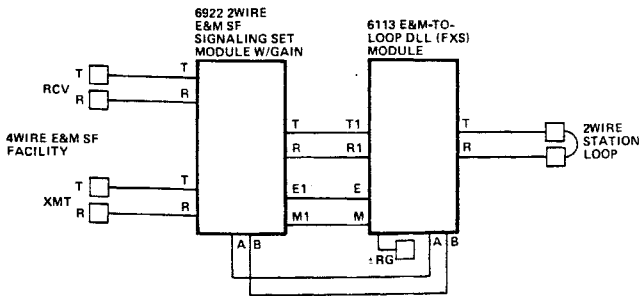

figure 4. 6113 in 4wire E&M SF-to-loop application
2.10 Other applications for the 6113, such as interfacing an E&M SF transmission facility, are possible with the addition of one or more modules. Figure 4 shows one possible 4wire E&M SF facility-to-loop application. Please call Tellabs Customer Service at one of the telephone numbers listed in paragraph 7.02 if additional application information is required.